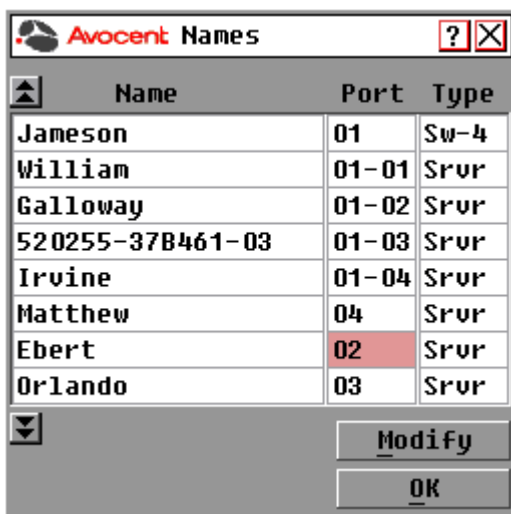

Figure 3.3: OSCAR Interface Names Dialog Box
2. Click *Setup - Names* to open the Names dialog box as shown in Figure 3.3.